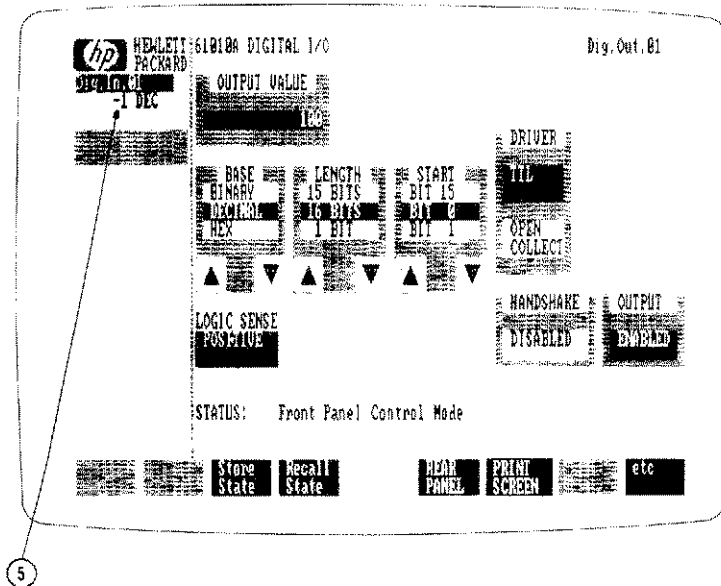

Figure 2-6. Select Digital Input
Step 5 - To try out DIG.IN.01, point to and select DIG.IN.01 from the labels in the System View Window (see Figure 2-6).
As shown in Figure 2-6, DIG.IN.01 is the factory default label for the Digital Input. The present input value is displayed on the line directly below the label in the System View Window. This value can be displayed in decimal (DEC), octal (OCT), or hexadecimal (HEX) format. Binary values are displayed in octal format. If you have more than one Digital I/O connected to your interface, each additional Digital Input will be assigned a sequentially numbered default label (i.e. DIG.IN.02, DIG.IN.03, etc).